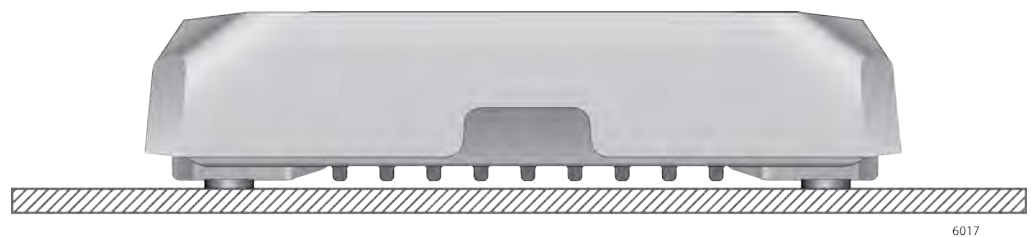

Figure 12. Approved Installation Orientations on a Ceiling, Wall, or Table
- ❑ Refer to Figure 12 on page 37 for approved orientations of the wireless access point on a table, wall, or ceiling.
1. Choose the location and orientation for the access point on the wall or ceiling. Refer to Figure 12 on page 37.